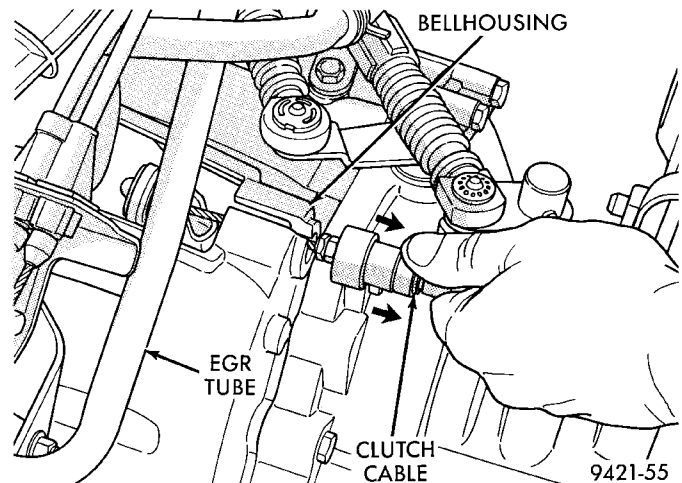

Fig. 4 Cable at Transaxle
(1) Pull up and remove Power Distribution Center.
(2) Remove clutch cable inspection cover.
(3) Pull back on clutch cable housing and disengage cable from housing (Fig. 4).
(1) With slight pressure, pull the clutch release lever end of the cable to draw the cable taut. Push the clutch cable housing toward the dash panel (With less than 25 lbs. of effort, the cable housing should move 30-50mm.). This indicates proper adjuster mechanism function. If the cable does not adjust, determine if the mechanism is properly seated on the bracket.
(2) If the adjust mechanism functions properly, guide the cable through the slot in the transaxle housing. Connect cable to release lever, seating the cupped washer securely on lever tangs.
(3) Pull back on clutch cable housing and insert into transaxle housing (Fig. 4).
(4) Reinstall cable inspection cover and PDC. Check clutch pedal position switch operation.